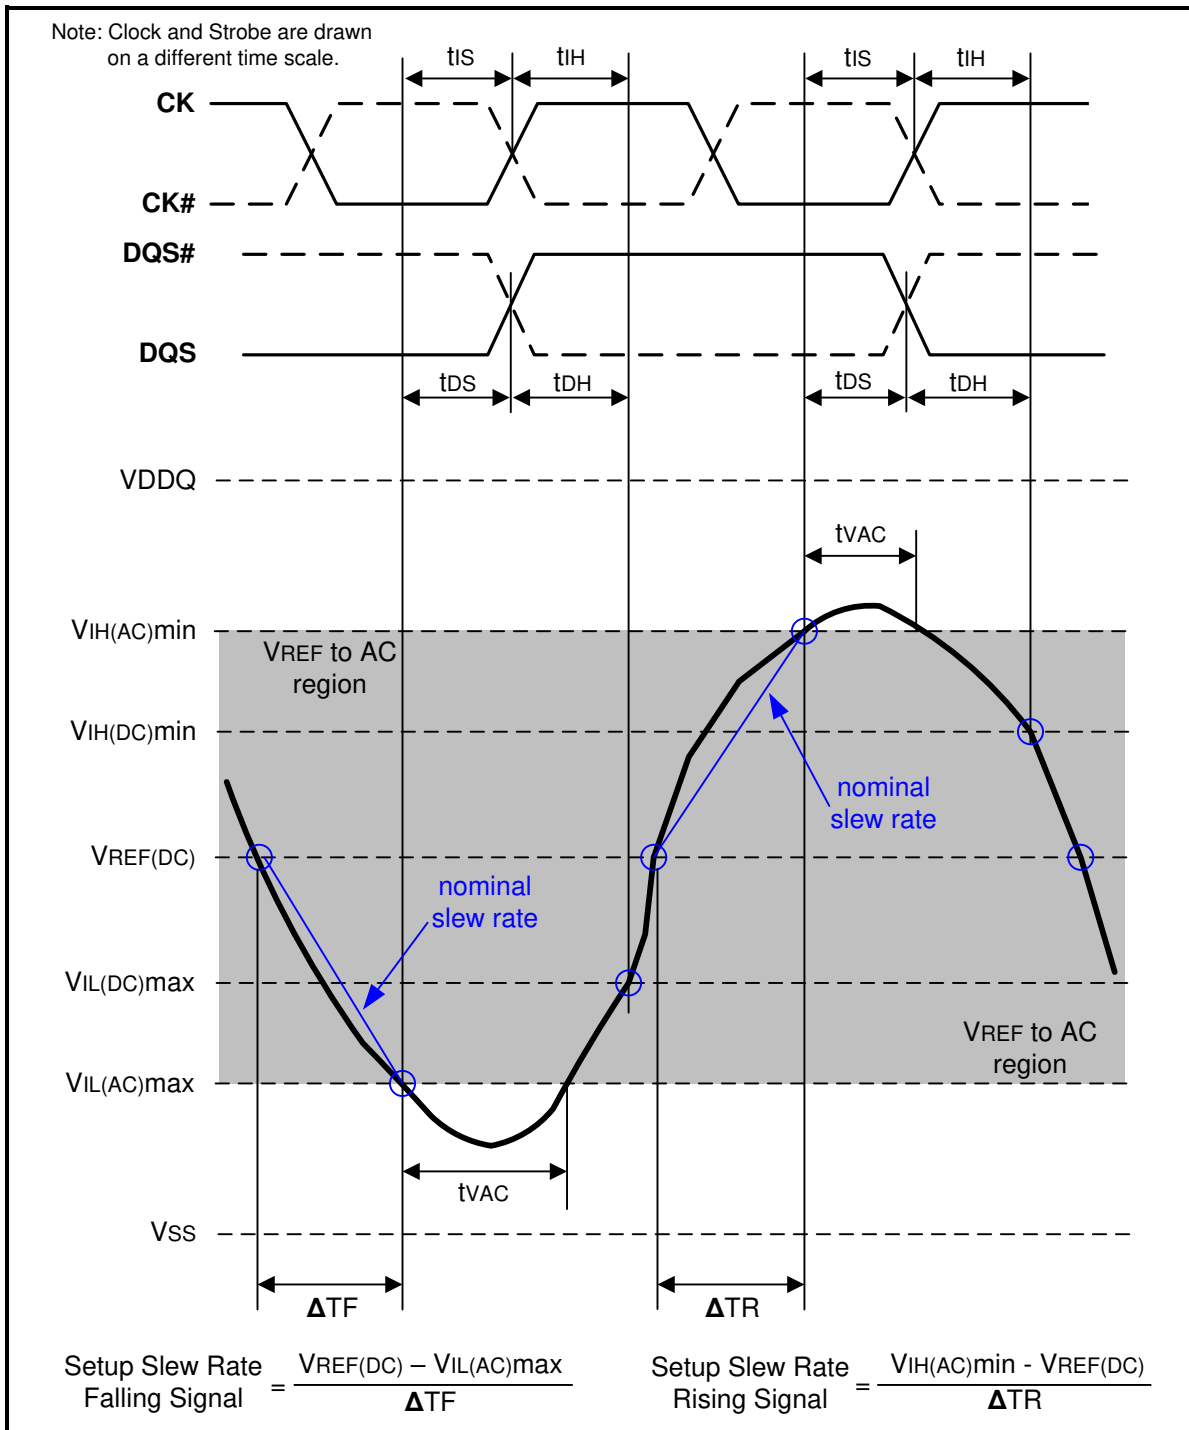
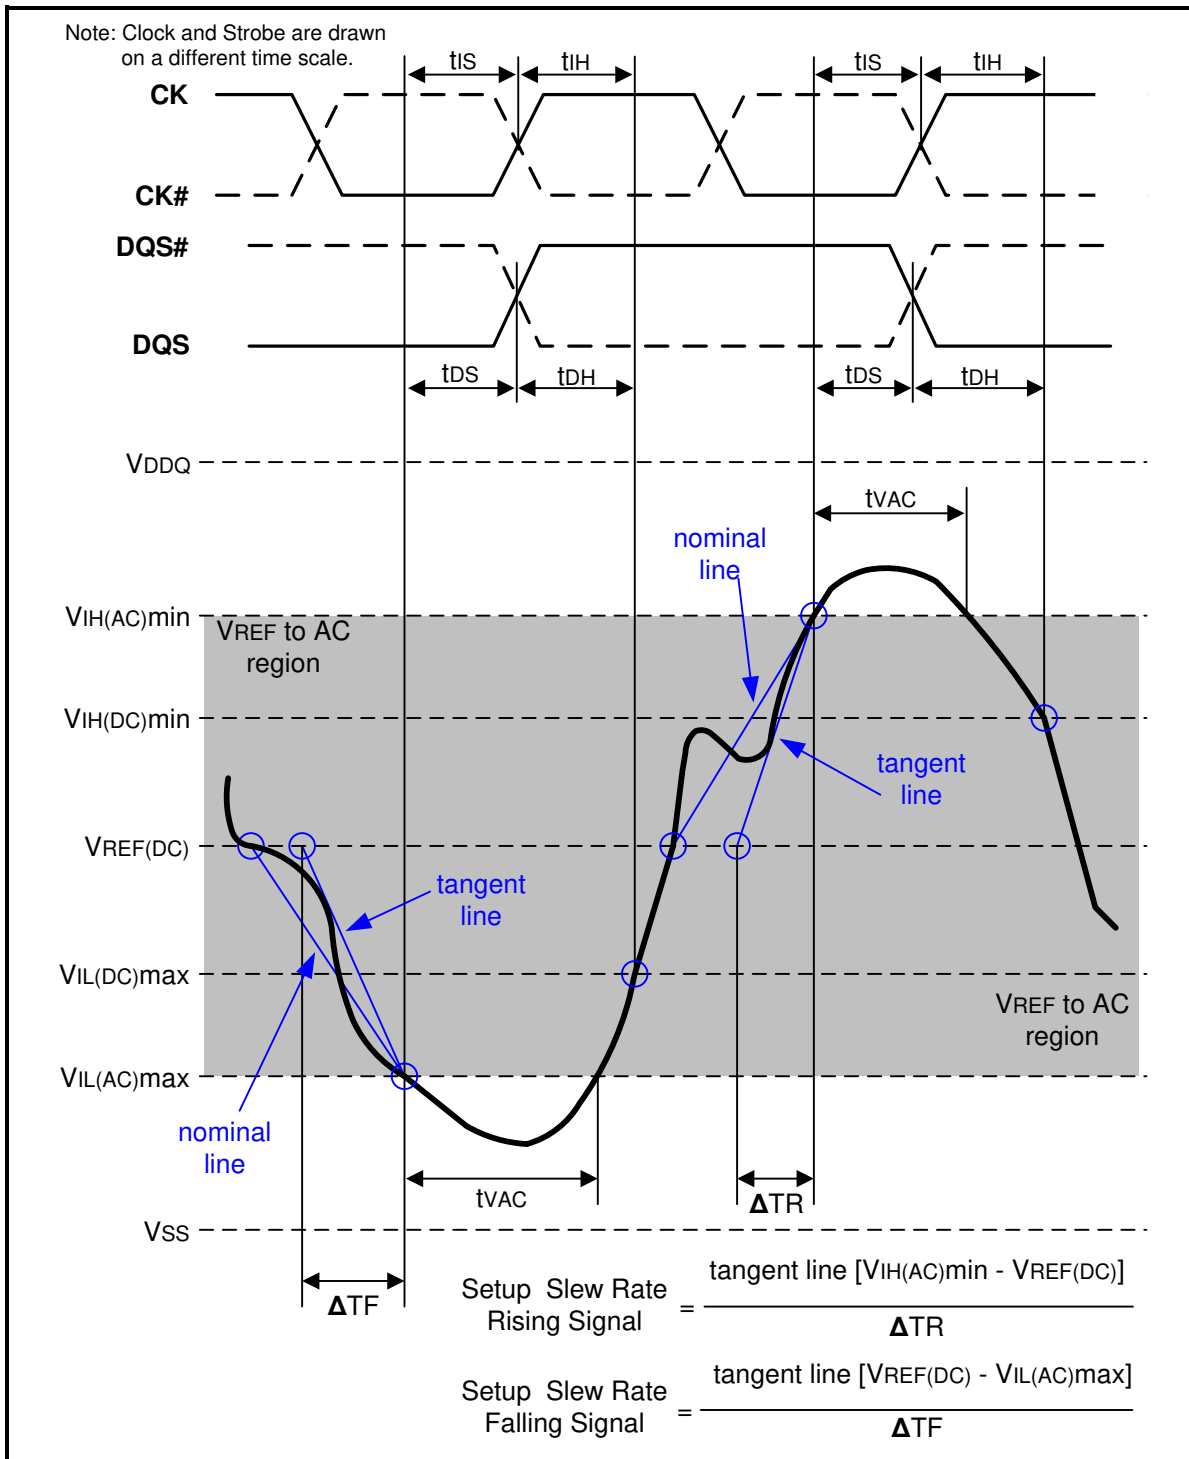

Figure 107 – Illustration of nominal slew rate and tvAC for setup time t_{DS} (for DQ with respect to strobe) and t_{IS} (for ADD/CMD with respect to clock)
Figure 109 – Illustration of tangent line for setup time t_{DS} (for DQ with respect to strobe) and t_{IS} (for ADD/CMD with respect to clock)
Setup (t_{IS}) nominal slew rate for a rising signal is defined as the slew rate between the last crossing of $V_{REF(DC)}$ and the first crossing of $V_{IH(AC)min}$. Setup (t_{IS}) nominal slew rate for a falling signal is defined as the slew rate between the last crossing of $V_{REF(DC)}$ and the first crossing of $V_{IL(AC)max}$. If the actual signal is always earlier than the nominal slew rate line between shaded 'VREF(DC) to AC region', use nominal slew rate for derating value (see Figure 107). If the actual signal is later than the nominal slew rate line anywhere between shaded 'VREF(DC) to AC region', the slew rate of a tangent line to the actual signal from the AC level to $V_{REF(DC)}$ level is used for derating value (see Figure 109).
Setup (tDS) nominal slew rate for a rising signal is defined as the slew rate between the last crossing of VREF(DC) and the first crossing of VIH(AC)min. Setup (tDS) nominal slew rate for a falling signal is defined as the slew rate between the last crossing of VREF(DC) and the first crossing of VIL(AC)max (see Figure 107). If the actual signal is always earlier than the nominal slew rate line between shaded 'VREF(DC) to AC region', use nominal slew rate for derating value. If the actual signal is later than the nominal slew rate line anywhere between shaded 'VREF(DC) to AC region', the slew rate of a tangent line to the actual signal from the AC level to VREF(DC) level is used for derating value (see Figure 109).